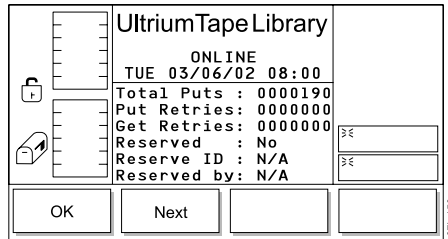

Figure 101. Put/Get Information
- To view information about put and get operations for the slot, press the button below the **Next** softkey. The Put/Get Information screen displays (see Figure 101).